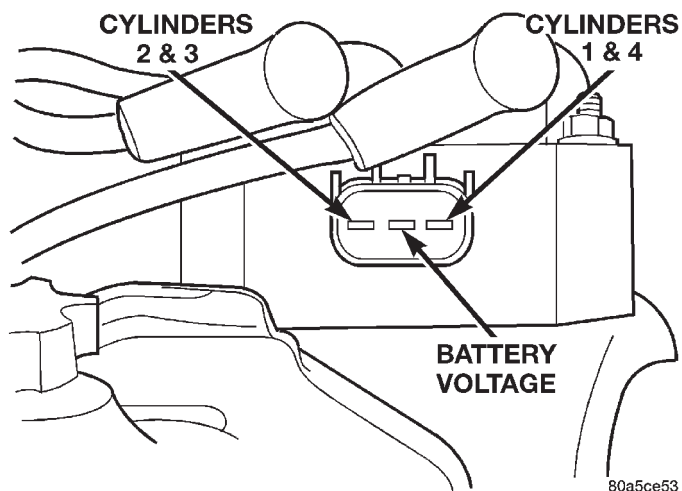

Fig. 15 Terminal Identification
(1) Remove the ignition cables and measure the resistance of the cables. Resistance must be between ranges shown in chart in specification section in this group. Replace any cable not within tolerance.
(2) Disconnect the electrical connector from the coil pack.
(3) Measure the primary resistance of each coil. At the coil, connect an ohmmeter between the B+ pin and the pin corresponding to the cylinders in question (Fig. 15). Resistance on the primary side of each coil should be 0.45 - 0.65 ohm. Replace the coil if resistance is not within tolerance.